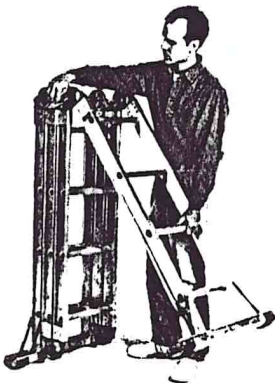
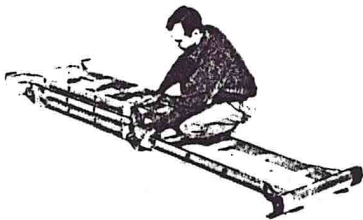

FIGURE 1.
FIGURE 2.
- 1) Begin with ladder standing in fully folded position. Unlock two hinges on outside section. Raise section (figure 1) and lay ladder down as shown in figure 2.
- 2) Lock extended section hinges (figure 2).